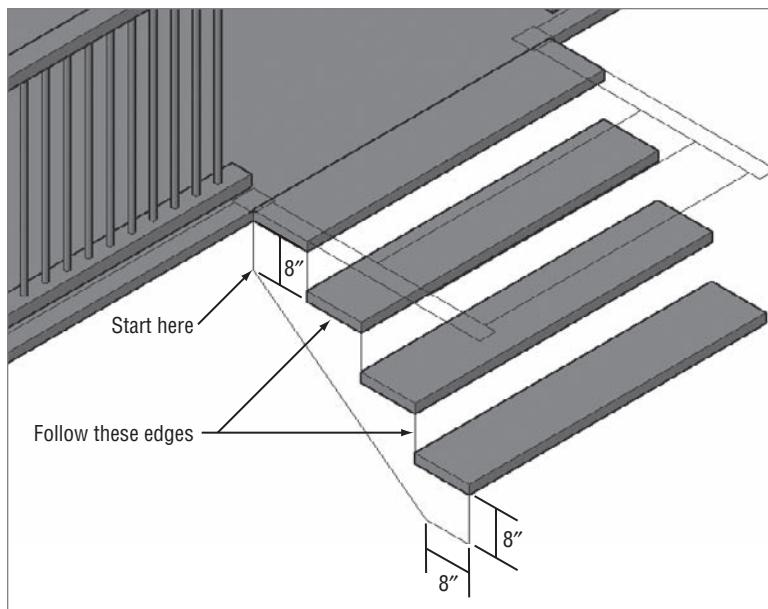

FIGURE 16.61 Drawing the stringer
5. To draw a polyline that you'll extrude to become the *stringer* (the support for the steps), you'll use a 3D Polyline (see Figure 16.61). Follow these steps: